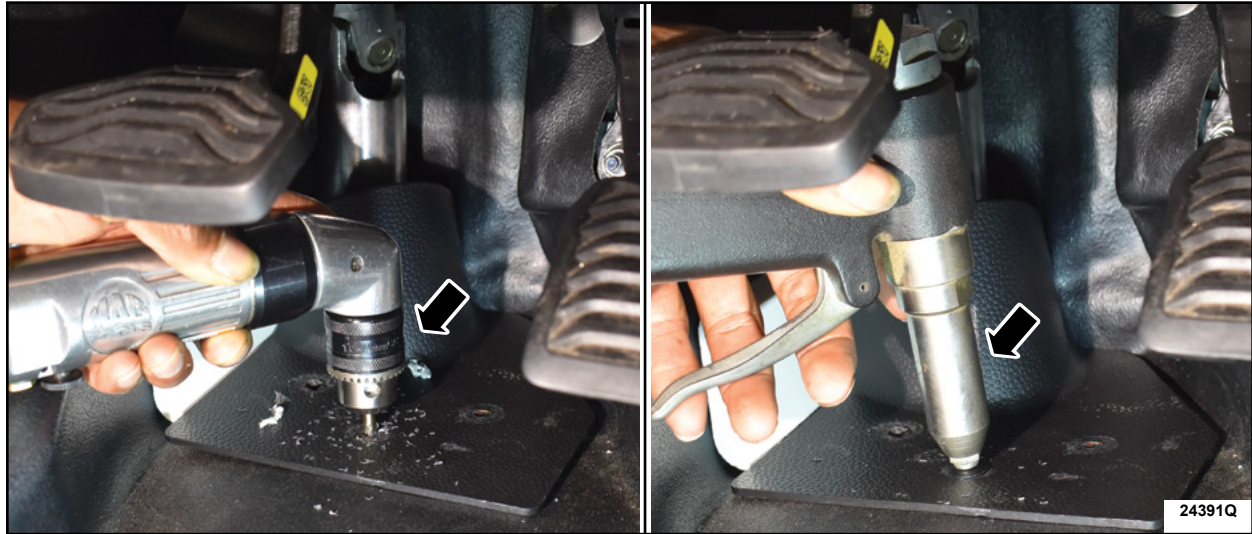

FIGURE 18
29. Using a 0.2 in. (5mm) drill bit, hold the *new* steering column shaft protective shield in place and drill the first hole using the hole in the shield as the template as shown in Figure 18.
30. Install a rivet, (Part Number PK41-V013502-AA), in that location to hold the *new* steering column shaft protective shield in place while drilling out the other 2 rivet locations. See Figure 18.